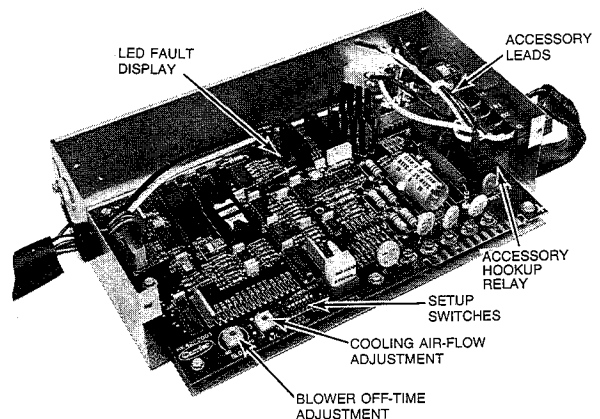
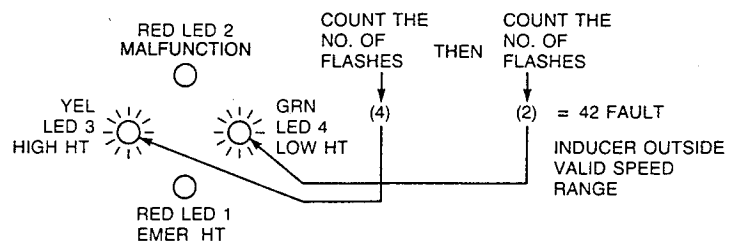

Fig. 8—Microprocessor Control Center
Fig. 12—Fault Code LED
- Put setup switch No. 2 on microprocessor control board in ON position to provide continuous low-fire operation. See Fig. 8.
- Return setup switch No. 2 on microprocessor control board to OFF position and put setup switch No. 3 to the ON position to provide continuous high-fire operation. See Fig. 8.
control board in the ON position. For high-fire operation return setup switch No. 2 to the OFF position and place setup switch No. 3 in the ON position. DO NOT forget to return setup switches to OFF position upon completion. See Fig. 8.
- d. Check to make sure bypass humidifier switch (marked BPH) on microprocessor control board is in ON position when a bypass humidifier has been installed. See Fig. 8.
An isolated set of normally open contacts (not connected to 24VAC or 120VAC) are available to operate any accessory such as an electronic air cleaner or humidifier. The relay contact will close whenever the blower motor is operating. These contacts are accessible by two 1/4-in. quick-connects mounted directly on the relay as shown in Fig. 8. Wire leads with quick-connects have been supplied as part of the control box wiring to simplify hookup per the three possible combinations shown in Fig. 9, 10, or 11.
4. Snip wire tie that surrounds accessory hookup leads shown in Fig. 8.
NOTE: If a bypass humidifier is used, bypass humidifier switch on the microprocessor control board must be put in ON position to increase the low-heat blower motor speed. This prevents nuisance limit trips caused by the increase in return-air temperature caused by the bypass from the humidifier. See Fig. 8 for location of BPH setup switch.
For proper furnace operation, follow the installation, startup, and adjustment instructions provided by the modulating damper system manufacturer. In addition, the multi-zone switch (labeled MZ on the microprocessor control board) must be put in the ON position so that the microprocessor can vary the blower speed to compensate for dampers that may have modulated closed during any given heating or cooling cycle. See Fig. 8 for location of multizone setup switch MZ.
This furnace has an LED display to aid the homeowner or service technician, while observing the furnace. See Fig. 8. The display can be seen through the view port provided in the blower door. To decipher the meaning of the display, refer to Fig. 12 or the fault code label on the inside of the control access door.
DO NOT REMOVE THE BLOWER DOOR IF LED'S ARE FLASHING, the fault code will be lost. Alternate flashing of the YEL and GRN LED's indicate a fault has occurred during operation. Count the number of times the YEL LED flashes and then count the number of times the GRN LED flashes. Once the fault code has been determined refer to Fig. 12 or the fault code label on the inside of the control access door to decipher the meaning of the display.